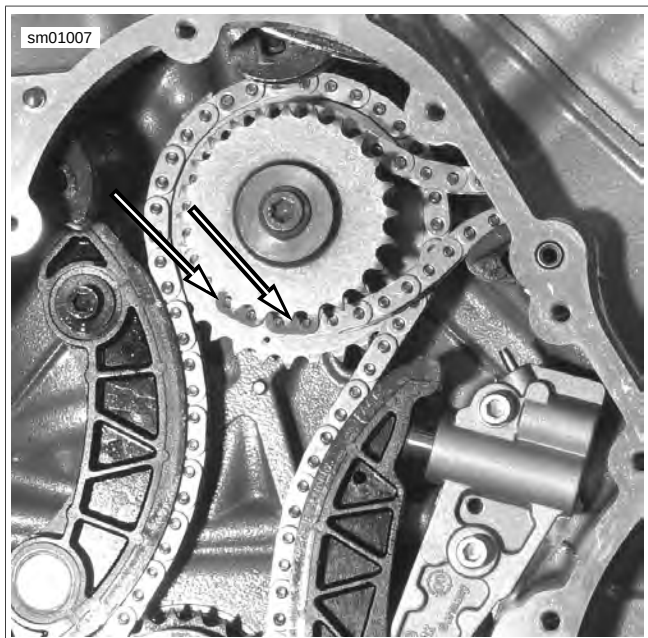

Figure 3-41. Copper Timing Links
- See Figure 3-41. Match front cam chain to front cylinder cams and rear cylinder chain to rear cylinder cams by marks or tags placed during disassembly. The chains are installed with the copper links outboard or on the alternator side. See 3.9 CAMSHAFTS, DRIVE CHAINS AND CAMSHAFT TIMING.